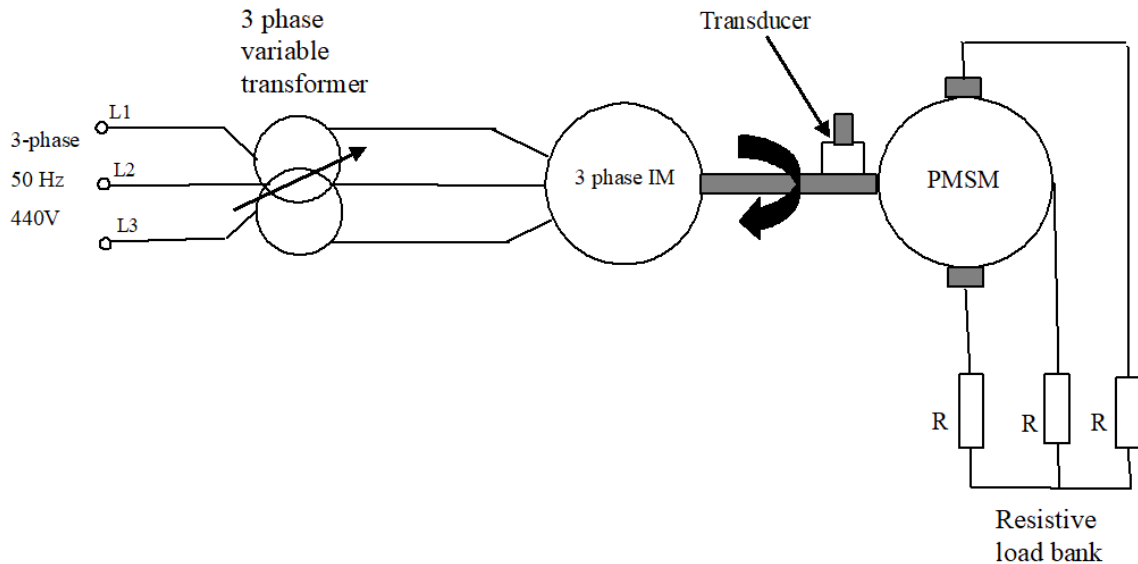

Fig. 1. Complete test set of the studied induction motor.
Each group is provided with one machine test set, comprising of a variable transformer, a 3-phase induction machine (IM), a torque transducer, a 3-phase permanent magnet synchronous machine (PMSM) and a 3-phase variable resistive load bank. The set-up is shown in Fig. 1 below.